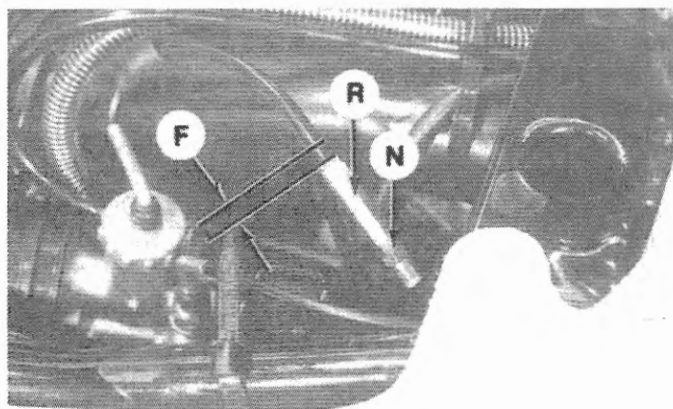

Fig. S13-5—Slide dust boots away from adjuster assembly and loosen locknut (N) and rotate adjuster (R) as required to obtain correct free play (F).
Before performing carburetor adjustments, throttle cable should be adjusted to provide 0.5-1.0 mm (0.02-0.04 in.) free play at idle position. To adjust throttle cable free play, the seat must be removed to expose throttle cable adjuster assembly. Slide dust boots away from adjuster assembly. Loosen locknut (N—Fig. S13-5) and rotate adjuster (R) as required to obtain correct free play (F). Tighten locknut (N) to retain adjustment and install dust boots and seat.